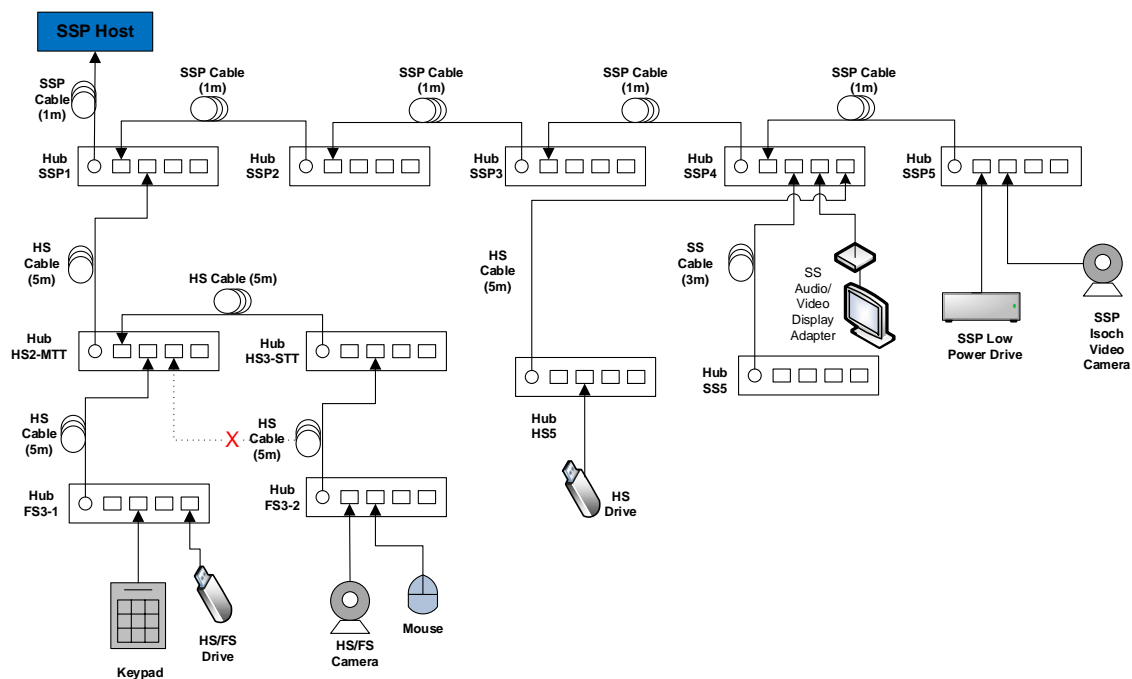
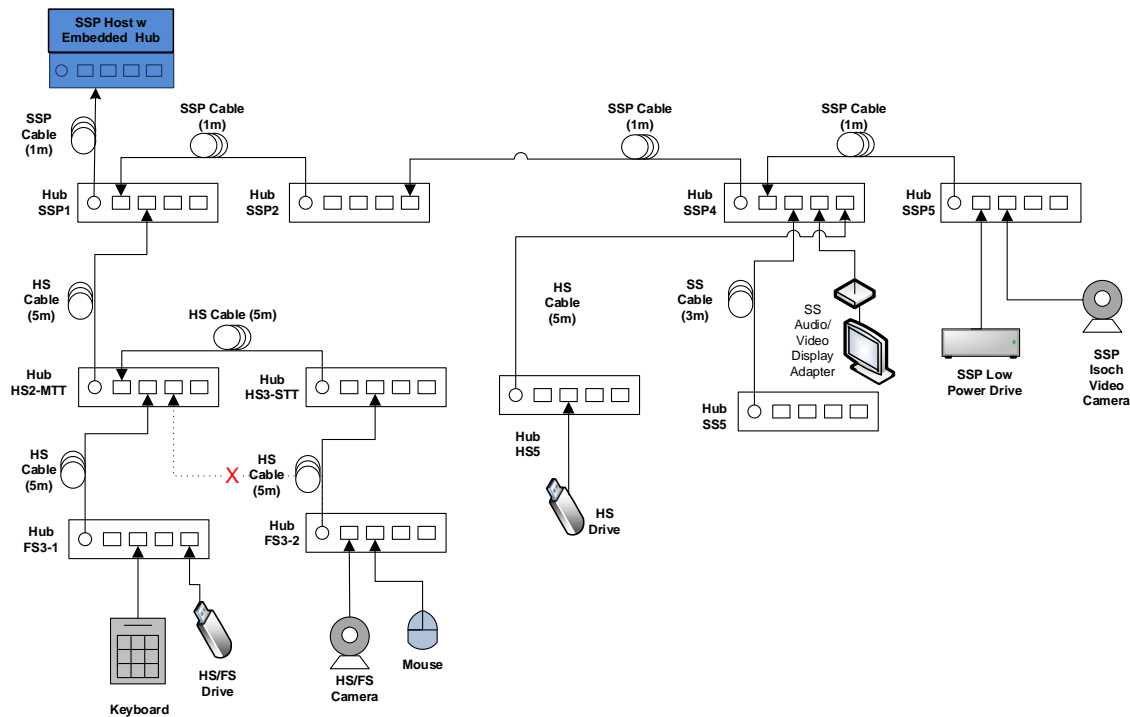

Figure 5-3: Topology Change 1
Figure 5-4: Topology Change 1 (embedded hub)
- Reattach Hub FS3-2 to port 2 on Hub HS3-STT as shown in Figure 5-3 and Figure 5-4.
Detach Hub FS3-1 from port 1 on Hub HS3-STT and reattach the Hub FS3-1 back to port 2 on Hub HS2-MTT. This should set the configuration back to what is displayed in Figure 5-3 and Figure 5-4.